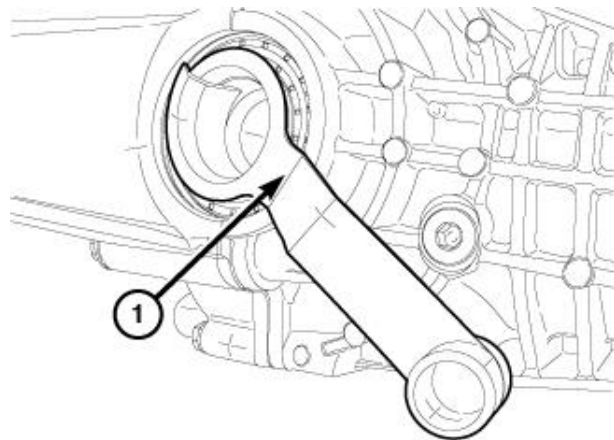

Figure 27 – Shipping Plugs
6. Remove the shipping plug from the left side of the **NEW** rear axle (Figure 27).
15. Remove the shipping plug from the right side of the **NEW** rear axle (Figure 27).